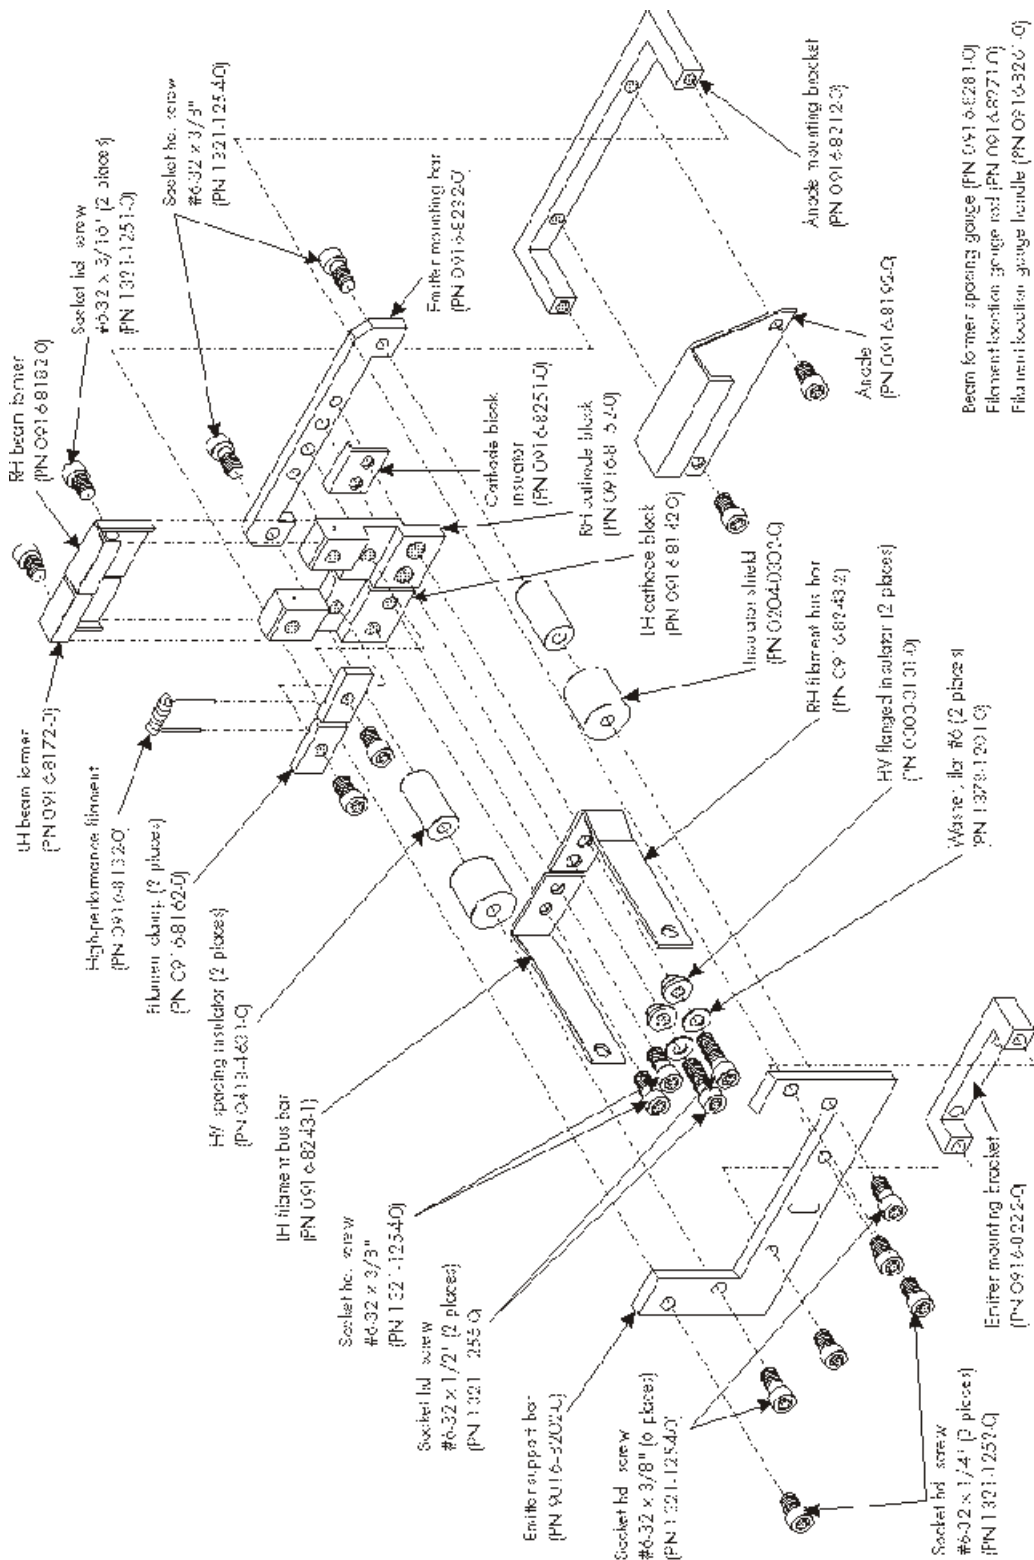

Figure 4-3. Exploded view of high-performance emitter
- 2 Examine all screws as you disassemble the emitter and replace any that show signs of thread damage or distortion. Damaged screws are likely to become frozen in place during subsequent source operation, resulting in breakage or thread stripping the next time you attempt to remove them. Coat all screws that you do reuse with molybdenum disulfide (ROCOL or equivalent). When replacing screws, use only stainless steel 6-32 socket-head screws of the correct lengths (see Figure 4-3). All screws must be vented so as to create a path through which gases trapped between the threads can be pumped out. To minimize virtual leaks, it is important that the underside of the screw's head as well as its threads be vented. For best results, use the screws that are available from Temescal, as they come machine vented in the correct manner.